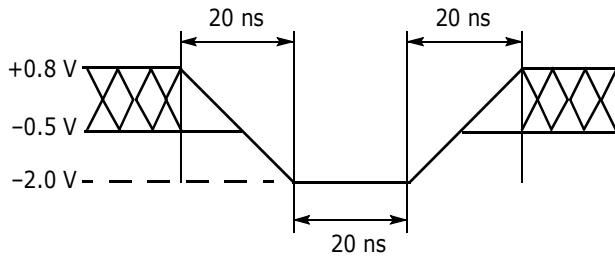
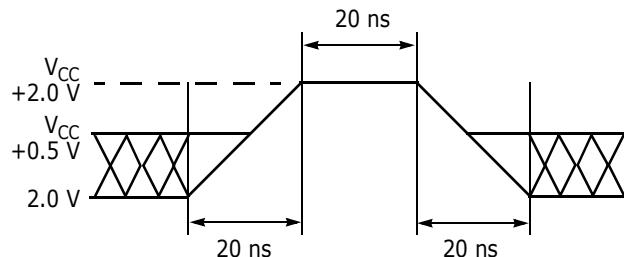

Figure 1. Maximum Negative Overshoot Waveform
Figure 2. Maximum Positive Overshoot Waveform
1. Minimum DC voltage on input or I/O pins is -0.5 V. During voltage transitions, input or I/O pins may overshoot V_{SS} to -2.0 V for periods of up to 20 ns. Maximum DC voltage on input or I/O pins is V_{CC} +0.5 V. See Figure 1. During voltage transitions, input or I/O pins may overshoot to V_{CC} +2.0 V for periods up to 20 ns. See Figure 2.
2. Minimum DC input voltage on pins RESET#, and WP#/ACC is -0.5 V. During voltage transitions, WP#/ACC, and RESET# may overshoot V_{SS} to -2.0 V for periods of up to 20 ns. See Figure 1. Maximum DC input voltage on pin RESET# is +12.5 V which may overshoot to +14.0 V for periods up to 20 ns. Maximum DC input voltage on WP#/ACC is +9.5 V which may overshoot to +12.0 V for periods up to 20 ns.